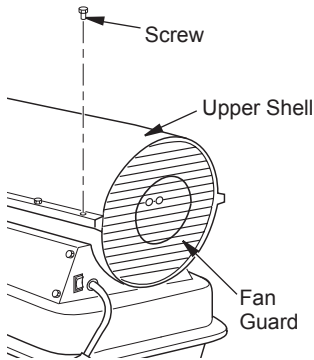

Figure 6 - Upper Shell Removal
1. Remove screws along each side of heater using 5/16" nut-driver. These screws attach upper and lower shells together. See Figure 6.
1. Remove upper shell (see Figure 6).